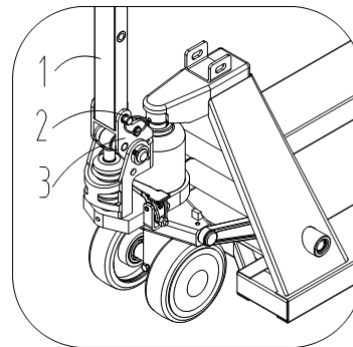

Figure 2
3.2 As shown in Figure 2, insert the pin shaft 2 into the press frame 3 and fix the handle 1.